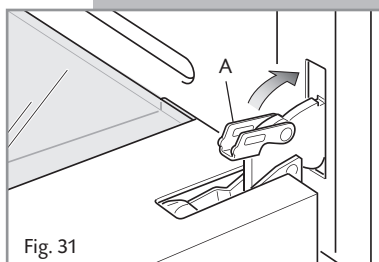

Fig. 31
- Unlock the oven door by opening it completely and closing the lever **A** on the left and right hinges (Fig. 31).